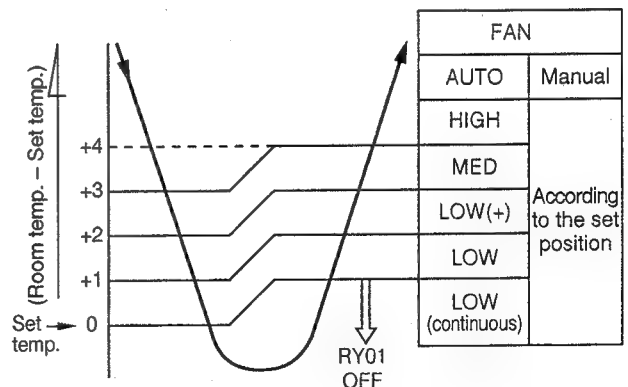

Fig. 7-2-2
- 1) When the FAN is set to AUTO, the indoor fan motor operates as shown in Fig 7-2-2.